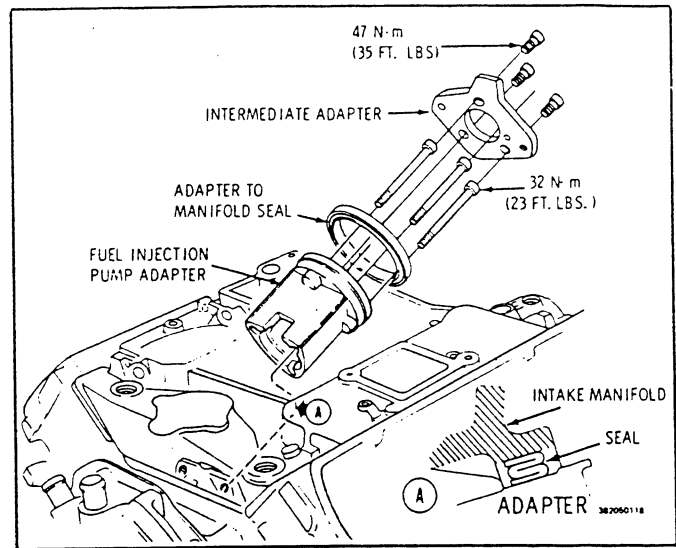

Fig. 11 Injection Pump Adapters
Figs. 11 and 12
12. Intermediate pump adapter (Figure 11)
7. Pump adapter (Fig. 11)